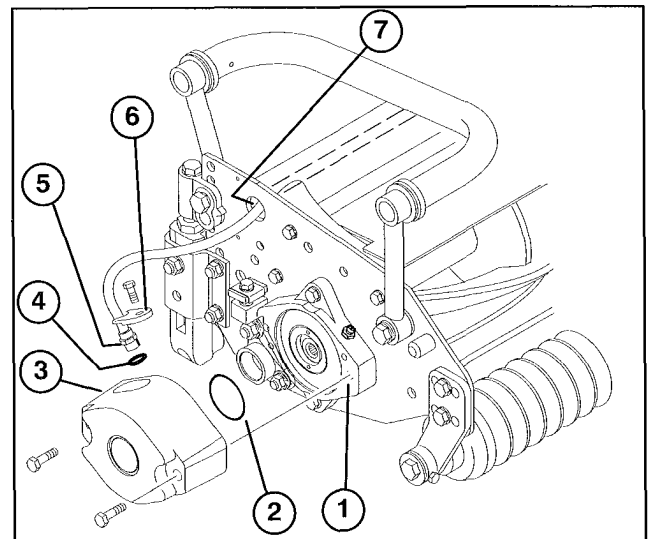

Figure 3
3. Lubricate and install a large O-ring into bearing housing groove on each end of cutting unit (Fig. 3 & 5).
4. Install a counter weight onto appropriate end of each cutting unit with capscrews provided (Fig. 3).
12. Install small O-ring onto speed sensor and insert sensor into hole in counterweight (Fig. 3).
13. Secure sensor to counterweight with a sensor holder and a M6 x 20 mm capscrew (Fig. 3).